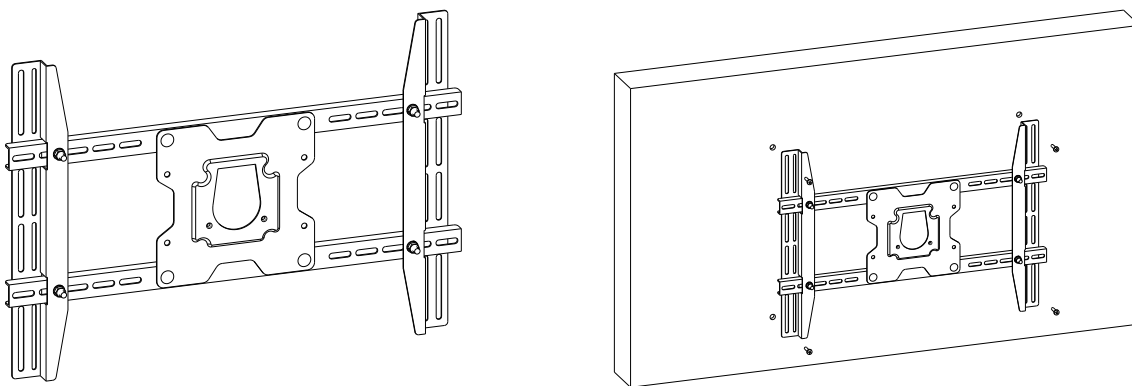

Figure 18
6. Assemble the two Vertical Bars onto the Horizontal Bars using four (4) S1 bolts, with W3 washers and N1 nuts as shown in Figure 17. The Vertical Bars slide into the Horizontal Bars (see Figure 18 for correct assembly). The Vertical Bars must be spaced to match the width of the VESA hole pattern (usually 400 mm (15 3/4") or 600 mm (23 5/8")).
7. Fix the Vertical Bars and Hook Plate to the back of the TV Display by connecting the proper screw (S4/S5/S6) into the VESA holes. Select the proper washer (W1/W2/W3) to be used with the screws. Figure 18.